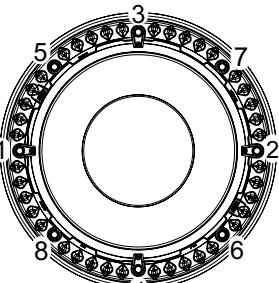

Fig. 1b
- g. Tighten the bolts securely in the patterns shown (2 thru 4 [51 thru 102] outlets Fig. 1a)(6 thru 8 [152 thru 203] outlets Fig. 1b) to 25 ft-lbs maximum torque. **Warning: Over-torque of the bolts can cause damage to the clamping collar and/or drain body, and compromise sealing of the membrane. DO NOT use an impact driver to tighten down the hardware.**